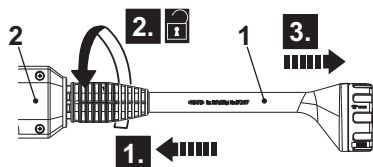

Fig. 2
Press the 5 in 1 lance (1) towards the spray gun (2) (Fig. 2, step 1) and turn it anti-clockwise (step 2) to unlock and remove it (step 3).